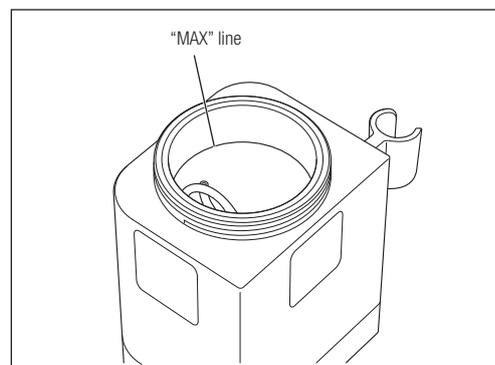

Fig. 24
- 1) Select the Chamber and powder to be used with this Mode. Fill the Chamber with powder up to the "MAX" line (approximately 80g of FLASH pearl or approximately 50g of Perio-Mate powder) (Fig. 24).